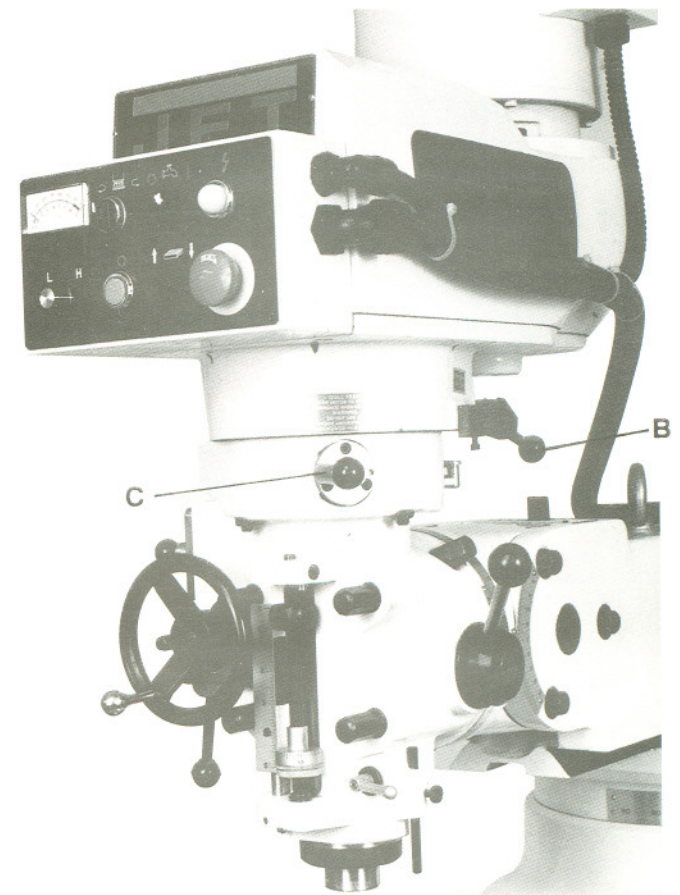
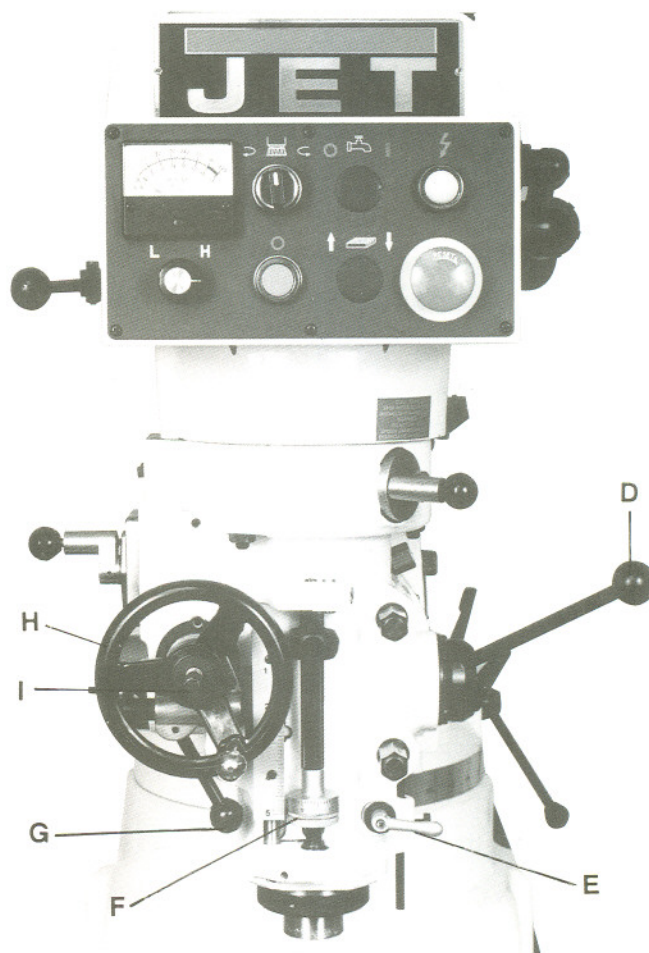

Fig.5
Fig.6
- B. **High-Neutral-Low Lever** (B, Fig. 5) - located on the right side of the head. Upper position is high speed (direct drive). Middle position is neutral. Lower position is low speed (back gear).
- C. **Power Feed Transmission Engagement Crank** (C, Fig. 5) - located on the right side of the head. When lever is in the right-hand side hole, the power feed worm gear is disengaged. To engage power feed, pull knob out and move lever around to the left-hand side. Release the pin into the hole.
- D. **Quill Feed Handle** (D, Fig. 6) - located on right side of head. Rotate clockwise to lower spindle. Return spring will retract the spindle automatically once the handle is released.
- E. **Quill Lock** (E, Fig. 6) - located on the right side of the head. Rotate the handle clockwise to lock the quill in a desired position. Rotate the handle counter-clockwise to release.
- F. **Micrometer Adjusting Nut** (F, Fig. 6), - located on the front of the head. Use for setting specific spindle depth.
- G. **Feed Control Lever** (G, Fig. 6) - located on the left side of the head. Engages overload clutch on pinion shaft when positioned to the left. Stays engaged until quill stop comes in contact with micrometer adjusting nut (forcing feed control lever to drop out automatically), or until lever is released manually by engaging lever to the right.
- H. **Manual Feed** (H, Fig. 6) - located on the left side of the head. Feed reversing knob (I, Fig. 5) must be in the neutral position. The feed control lever (G, Fig. 5) must be engaged.
- I. **Feed Reversing Knob** (f, Fig. 6) - located in center of manual feed handwheel. Position of the handle depends upon the direction of spindle rotation. If boring with right hand cutting tools, pull feed handle towards operator until clutch becomes engaged. Neutral position is between forward and reverse position.